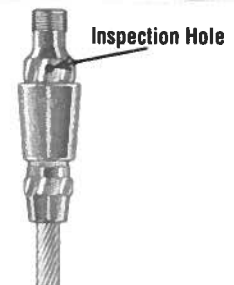

Figure 5
STEP 7: Inspect for proper assembly. (Figure 5) Prior to proof-loading, strands visible through the inspection hole are your assurance of a proper assembly. The end of the rope may not be visible in the inspection hole after proof-loading.